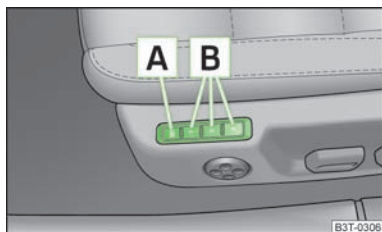

Fig. 56
The memory for the driver's seat provides the option to store the individual positions of the driver's seat and the external mirrors. A setting position can be allocated to each of the three memory buttons  » Fig. 56, i.e. three in total.
- > Press the button   » Fig. 56.
- **One-touch automatic memory:** briefly press the desired memory button  » Fig. 56. The seat and exterior mirror are moved automatically into the stored positions (this applies only if the ignition is switched on and the speed is less than 5 km/h).